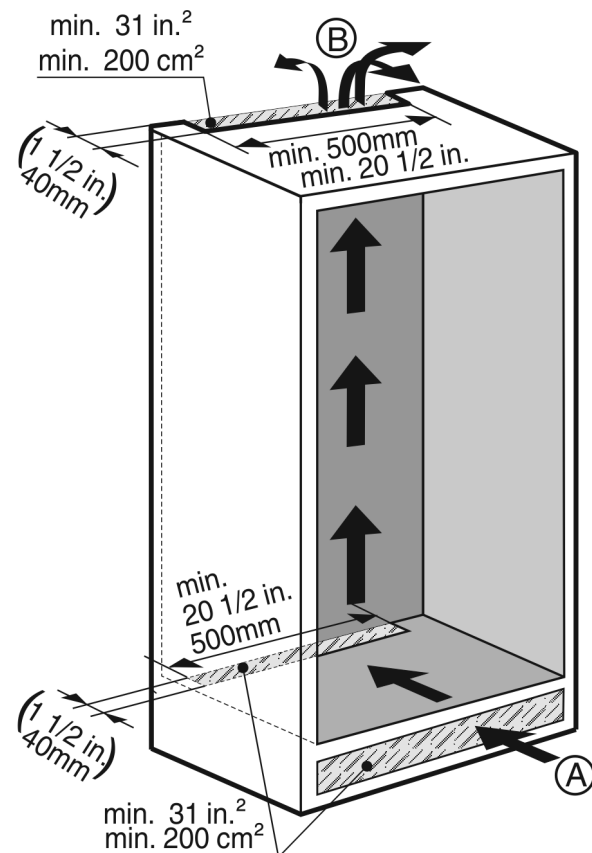

Fig. 6
- There must be an effective ventilation gap of at least 31 in² (200 cm²) per appliance for the air inlet Fig. 6 (A) and the air outlet Fig. 6 (B).